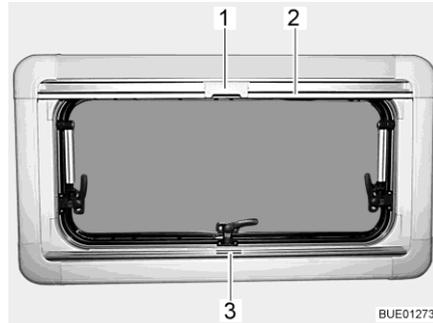

Fig. 102 Hinged window
- Grip the Roman shade in the centre of the holding bar (Fig. 102,3), pull it from the bottom to the top and then release it at the desired height. The Roman shade will stay at this height.
- Pull the insect screen down using the holding bar (Fig. 102,2), until it touches the holding bar of the Roman shade (Fig. 102,3).
- Clip the catch (Fig. 102,1) on the insect screen into the handle of the Roman shade.
- Push the catch (Fig. 102,1) on the insect screen inwards.
- Move the insect screen back slowly on the holding bar (Fig. 102,2).